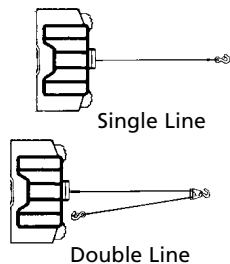

Figure 2
** All loads shown are for single-line operation. Double-line operation with optional pulley block (see Figure 2) approximately doubles capacity of winch.
1. Maximum working load capacity is on the wire rope layer closest to the drum. DO NOT OVERLOAD. DO NOT ATTEMPT PROLONGED PULLS AT HEAVY LOADS. Overloads can damage the winch and/or the wire rope and create unsafe operating conditions. FOR LOADS OVER 1,000 POUNDS (454 kg), WE RECOMMEND THE USE OF THE OPTIONAL PULLEY BLOCK TO DOUBLE LINE THE WIRE ROPE (Figure 2). This reduces the load on the winch and the strain on the wire rope by approximately 50%. Attach hook to load bearing part. **The vehicle engine should be running during winch operation.** If considerable winching is performed with the engine off, the battery may be too weak to restart the engine.
3. **USE A PULLEY BLOCK FOR HEAVY LOADS.** To maximize winch and wire rope life, use a pulley block to double line heavier loads (Figure 2).